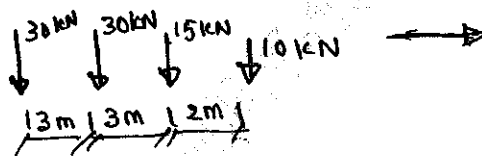

Fig.Q10
- 10 Using relevant influence line diagram find (i) Maximum bending moment (ii) The maximum positive and negative shear forces at 4m from left support of a simply supported girder of span 10m, when a train of 4 wheel loads of 10 kN, 15 kN, 30 kN and 30 kN spaced at 2m, 3m and 3m respectively cross the span left to right with 10 kN load leading. [Refer Fig.Q10] (16 Marks)